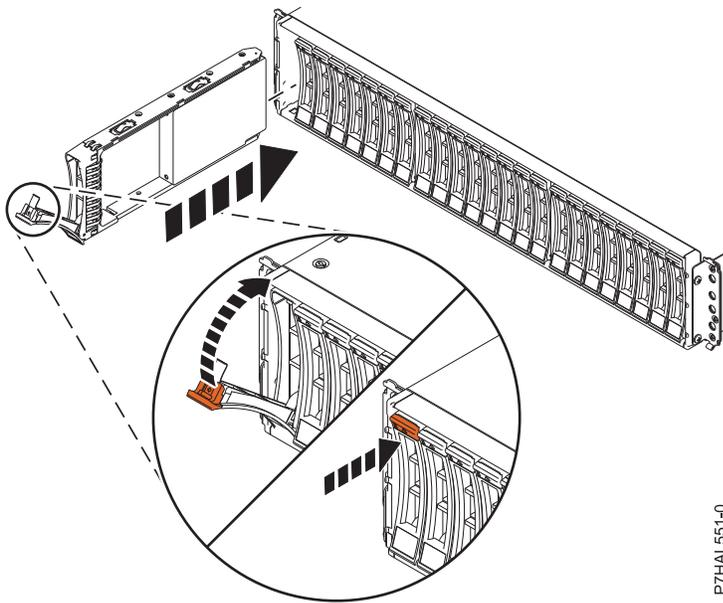

Figure 4. Installing the disk drive in the 5887 expansion unit
1. With the handle in the unlocked position, see Figure 4, support the bottom of the disk unit as you align it with the guide rails in the expansion unit. Do not hold the disk unit solely by the handle.